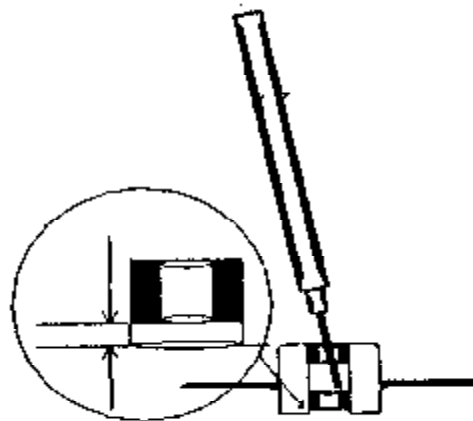

FIG 2
- 4 Note depth of old bearing ( Fig 2 ).
- 5 Two bearing motor: slide D+D tool through lower bearing hold on angle, tap around edge lightly until bearing is removed ( Fig 2 ).